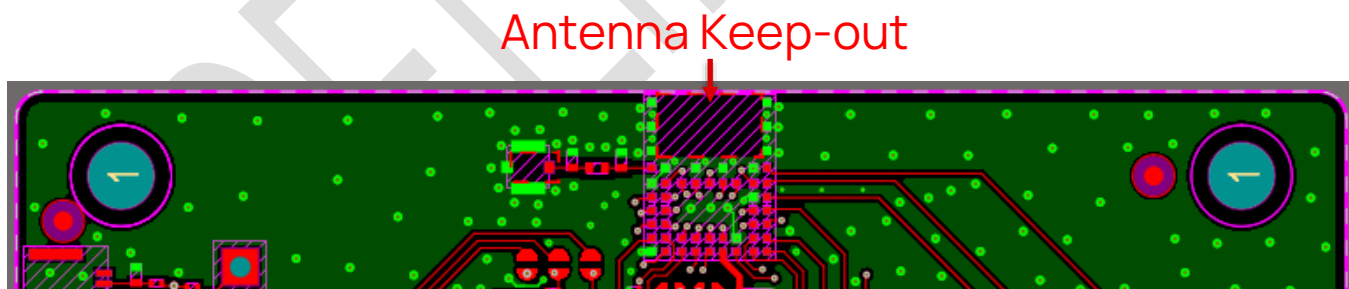

Figure 6: Chip Antenna keep-out area (shown in red) of the BL54L15 μ development board for the 453-00223 module.
- The BL54L15 μ development board (453-00223-K1) has the 453-00223 module on the edge of the board (not in the corner). The antenna keep-out area is defined by the BL54L15 μ development board which was used for module development and antenna performance evaluation is shown in Figure 6, where the antenna keep-out area is 3mm wide, 5mm long; with PCB dielectric (no copper) height ~1.6mm sitting under the 453-00223 chip antenna module.
- Host PCB land pattern and antenna keep-out for the BL54L15 μ applies when the 453-00223 is placed in the edge of the host PCB preferably in the edge center. Figure 6 shows an example.